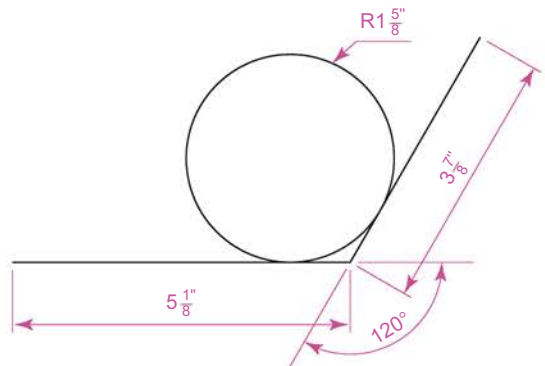

Fig. 3.33 Exercise 6
6. Using the **Line** tool, construct the two lines at the length and angle as given in Fig. 3.33. Then, with the **Ttr** prompt of the **Circle** tool, add the circle as shown.